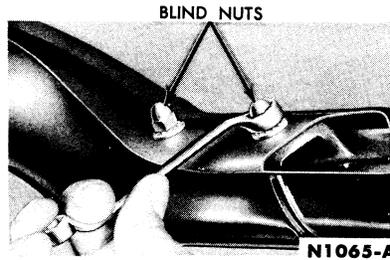

FIG. 24—Header Bow Adjustment
4. Loosen the blind nuts (Fig. 24) move the bow fore or aft to get proper alignment at the header, and tighten the nuts.